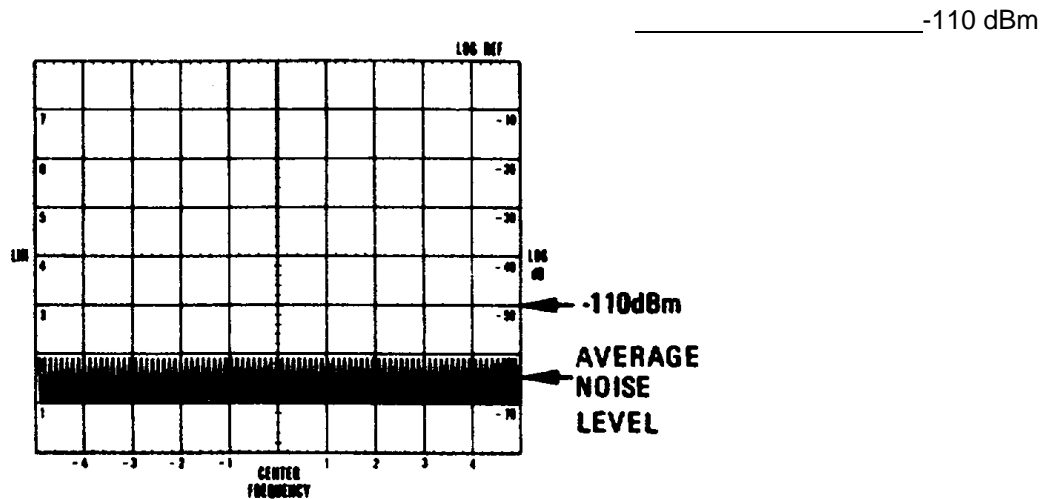

Figure 4-11. Sensitivity Measurement: CRT Display
- Observe the average noise power level on the CRT. It should be lower than -110 dBm as shown in Figure 4-11 as frequency is tuned from 110 MHz to 1 MHz. Make sure the LOG REF LEVEL vernier is set at 0 during the measurement.